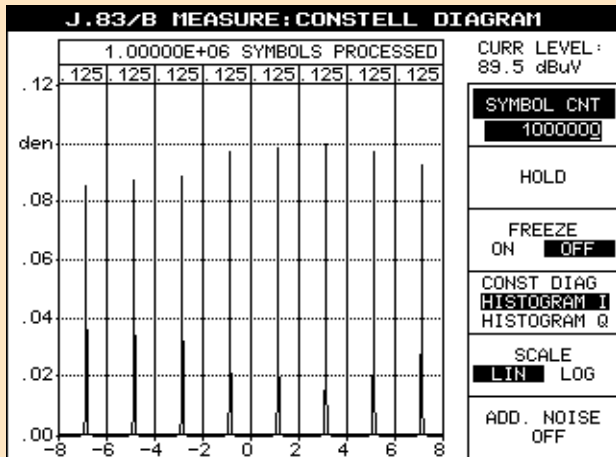
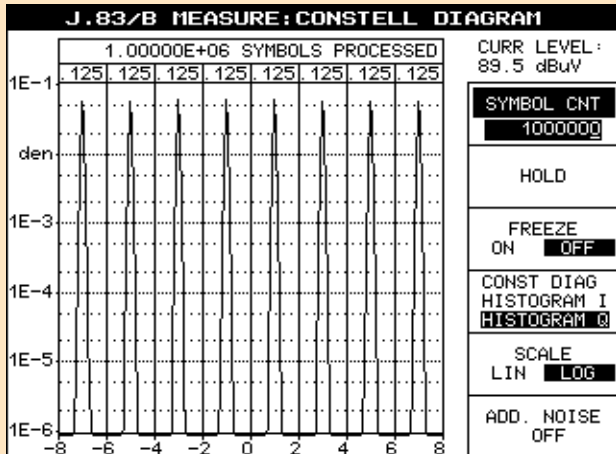

Fig. 19: Histogram I
Fig. 20: Histogram Q
- ◆ Histogram I (Fig. 19) and Q (Fig. 20) with user-selectable number of symbols to be displayed, range: 1 to 999 999 999 symbols